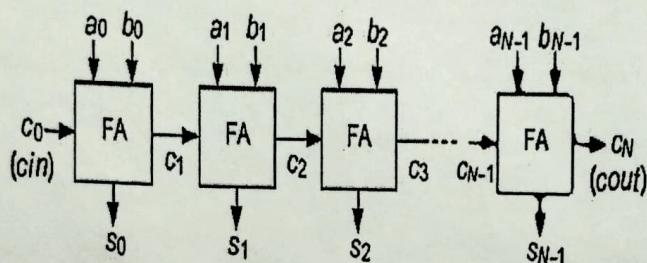

Fig.1. Carry Ripple adder
4. Model the carry ripple adder given in Fig.1. in VHDL with the following style